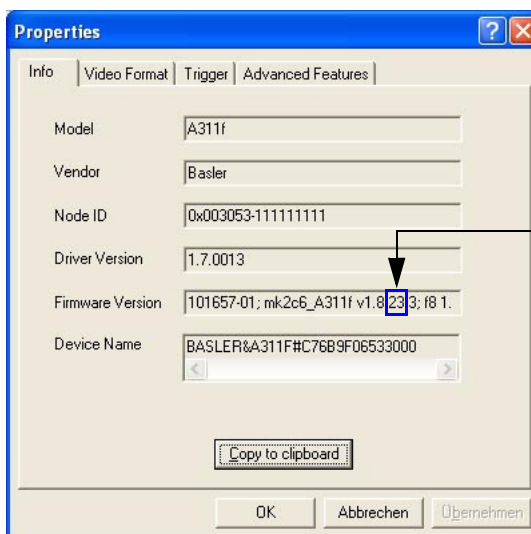

Figure 1-1: BCAM Properties Window
5. A properties window similar to the one shown in Figure 1-1 will open. Use the figure as a guide to find the firmware ID number.